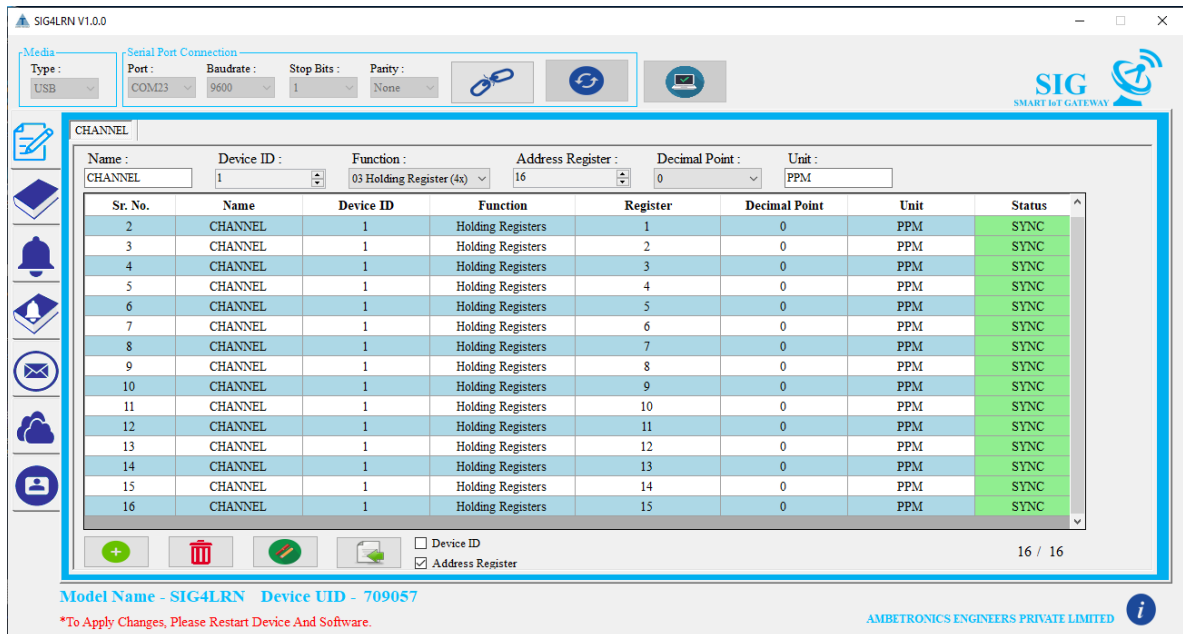

Figure 25
- ⑥ Cloud settings
- ⑦ Software settings
- 1 **CHANNEL ADDITION:** Here enter the Device Name, Device Id, select the Modbus Function, enter the Address Register, select Decimal Point and enter Unit. Then click on  button to add the device parameter, which is to be synchronised. Maximum of 48 Slaves can be set. Refer “①” in above figure.
- 2 **CHANNEL DELETE:** Deletes the selected channel. Refer “②” in above figure.
- 3 **CHANNEL SYNCHRONIZATION:** Clicking on  button will synchronise all data of table with device. One by one, the data will be transmitted to the device. When the data is transferred successfully, **SYNC** status will be displayed on window.  Button will be active only when the data is available to be sent. Refer “③” in above figure.
- 4 **DEVICE ID:** If this option is checked right, only Device Id will be incremented automatically. Refer “④” in above figure.
- 5 **ADDRESS REGISTER:** This option is also use to increment only address register automatically without changing any other parameters. Refer “⑤” in above figure.
- Once the data is filled click  button. This will add the data to the table as shown in Figure 25.
- Once all the data is added click on  button and wait till “SYNC” is filled in the status column as shown in Figure 25.
- Out of total added channels how many channels are synchronized is also displayed on window as shown in Figure 25.